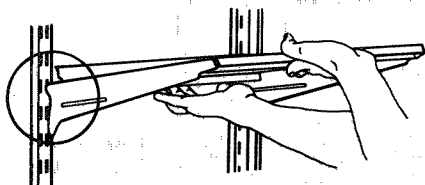

Figure 7
- To remove "cantilever" shelves, tap upward at back of shelf, near the metal track. See Figure 7. This will loosen shelf hooks. Lift shelf and pull out.